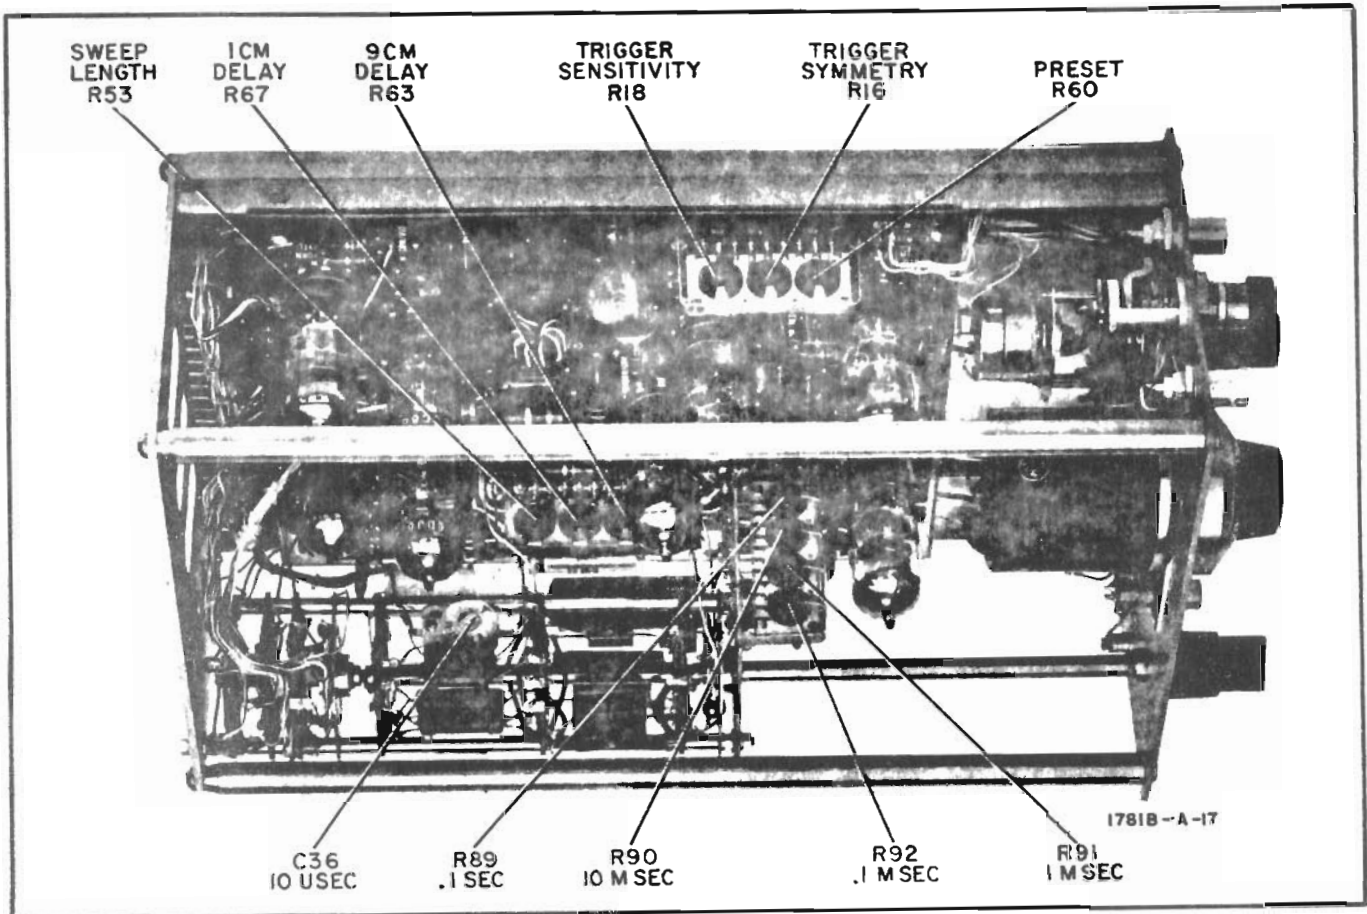

Figure 5-3. Location of Adjustments
- d. Start with Preset R60 (see figure 5-3 for location) fully ccw and rotate adjustment slowly observing the voltmeter indication. Voltmeter indication will change suddenly as the sweep triggers. Note this maximum negative voltage reading.